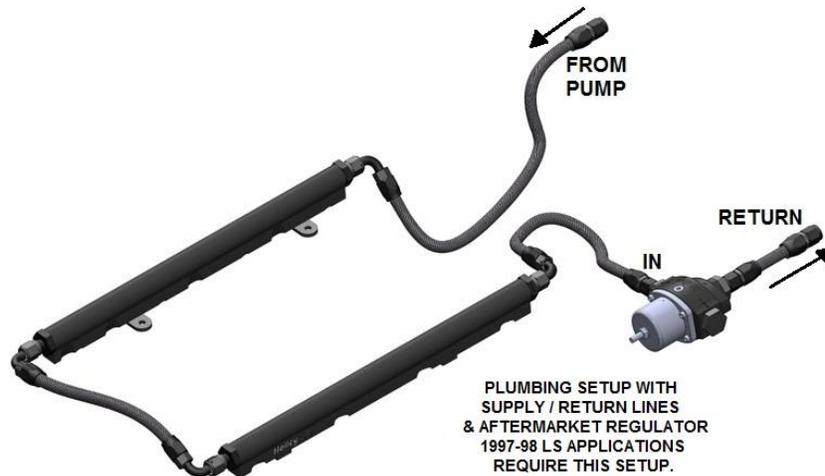

Figure 5
23. Plumbing will vary per application. Below is an example of two configurations (**Figures 5 & 6**). Refer to appendix A and B for hose assembly and routing instructions.